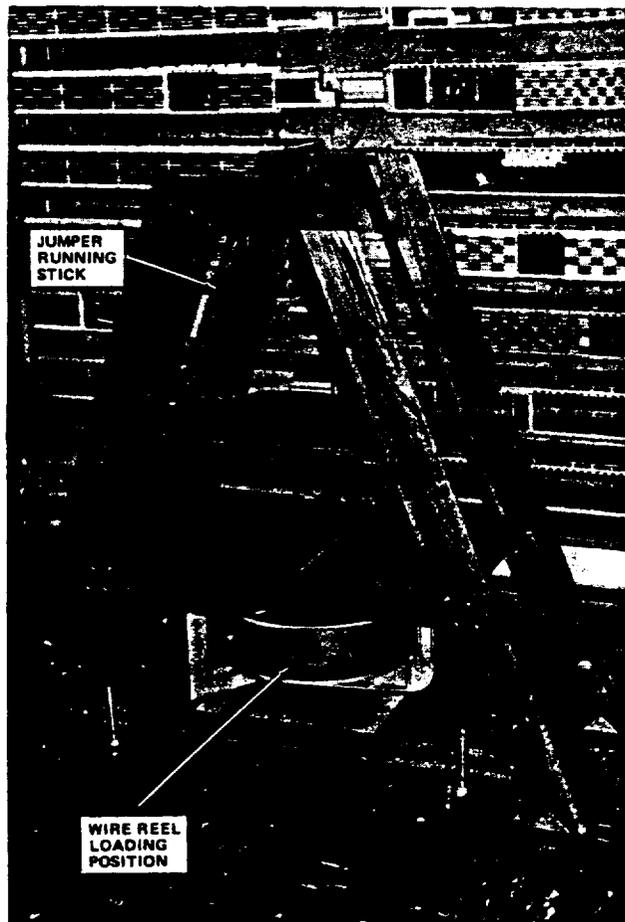

Figure 30. KS-21415, L2 Ladder
4.04 KS-21415, L2: In addition to the basic ladder configuration, List 2 is equipped with a wire reel, wire guide, and a jumper running tool (Comcode 401384318, Figure 30). The modified KS-21955, L9 wire reel, mounted on a sliding shelf, has an automatic brake assembly that is released by pulling tension on wire. A flexible spring wire guide located at the top of the side rail allows the ladder to remain stationary during remote jumper running operations. A jumper running stick, stored on the ladder with a magnetic latch, facilitates placement of wire jumpers in frame shelves or express troughs as wire is dispensed.